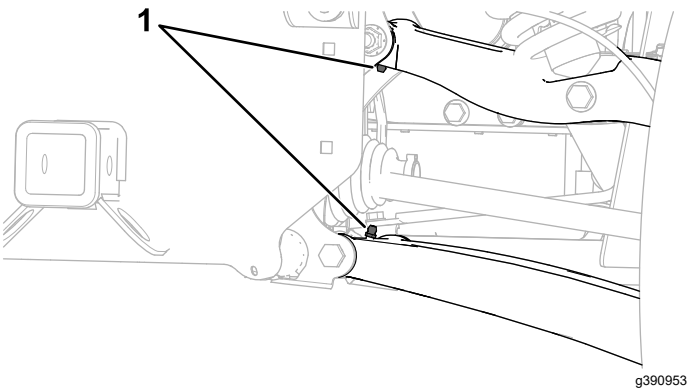

**Figure 79**
- **Front control arm pivots (2);** refer to Figure 79